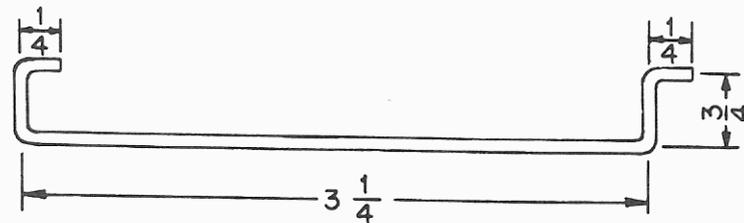

FIGURE 21
- ☑ 5¼" heavy bare wire. Form this wire to the dimensions given in Figure 21.